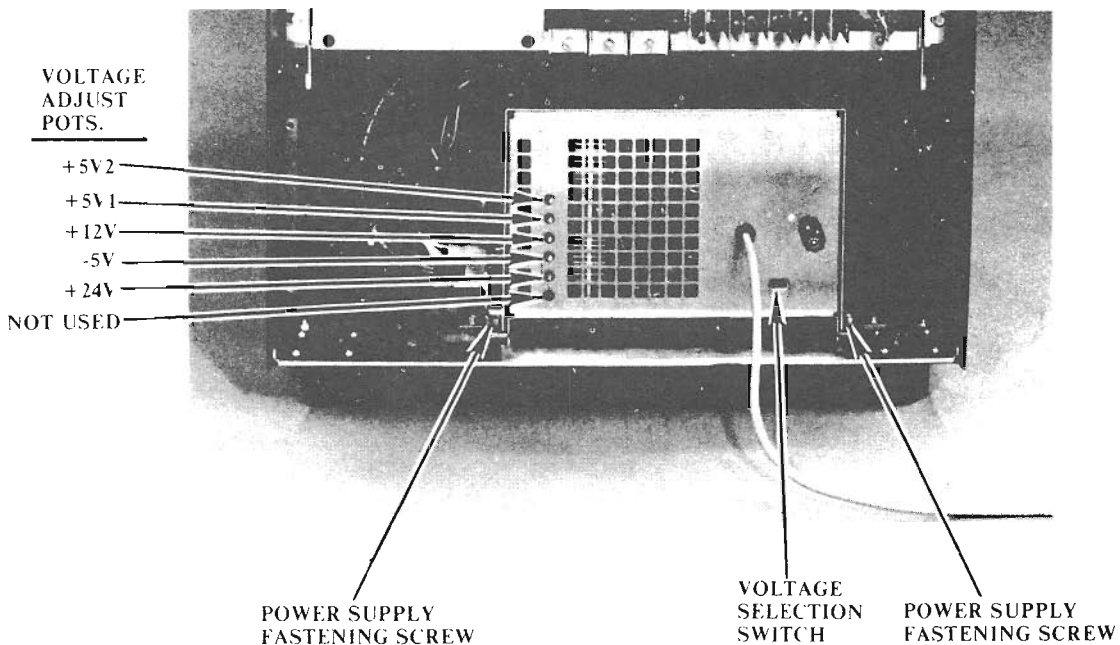

FIGURE 5 POWER SUPPLY UNIT
- f. Turn power ON and adjust operating voltages within the tolerances specified in table 1 using a digital voltmeter. Use test points on motherboard. Refer to figure 5 for location of adjustment controls on the power supply.
Refer to figure 5 for location of voltage adjustment potentiometers located on the rear of the power supply unit. The lower rear panel of the 2200LVP provides access holes to the voltage adjustment controls. Adjust voltages within the specifications listed in table 1.